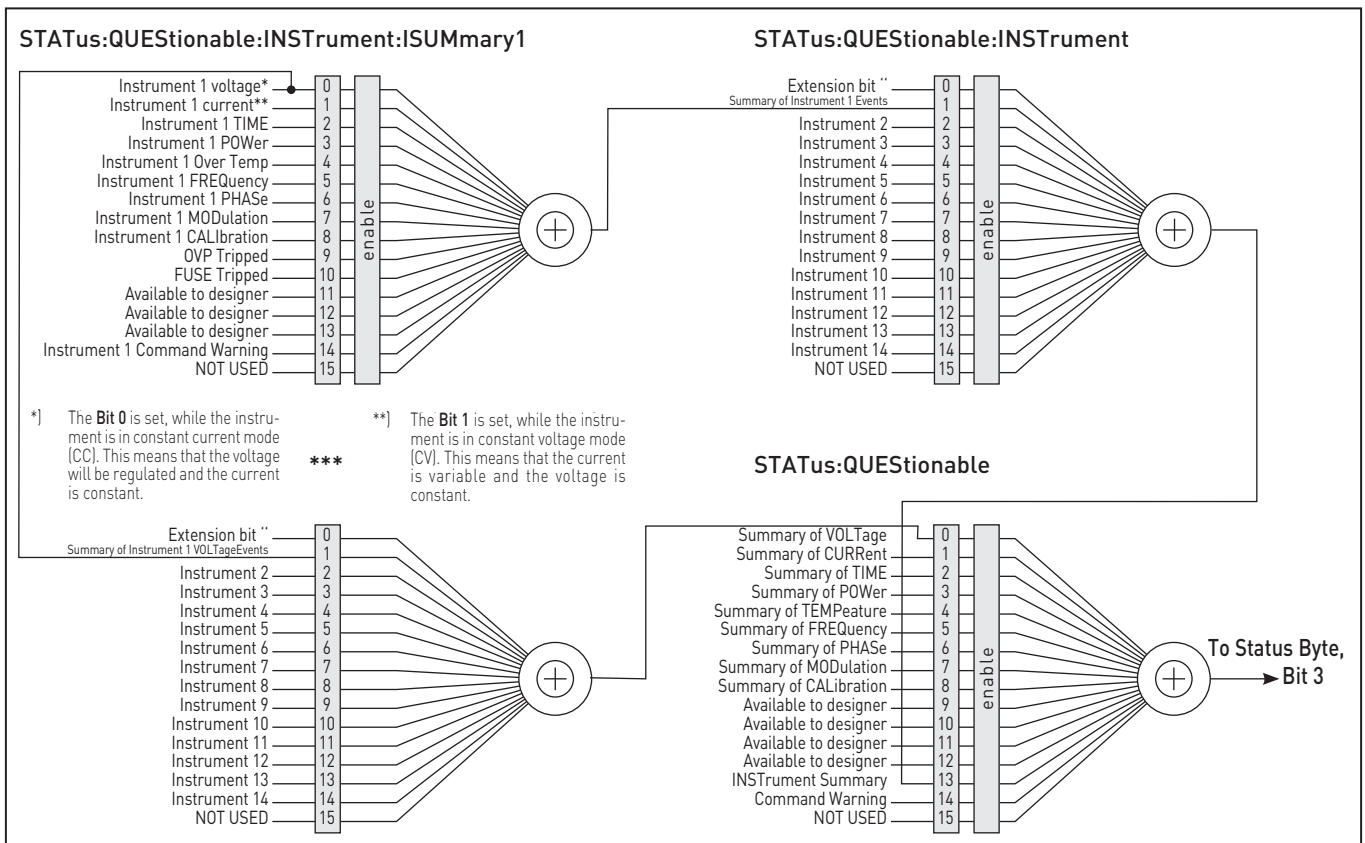

Fig. 6.2: Structure of the status register
6.7 Structure of the status register [see Fig. 6.2]